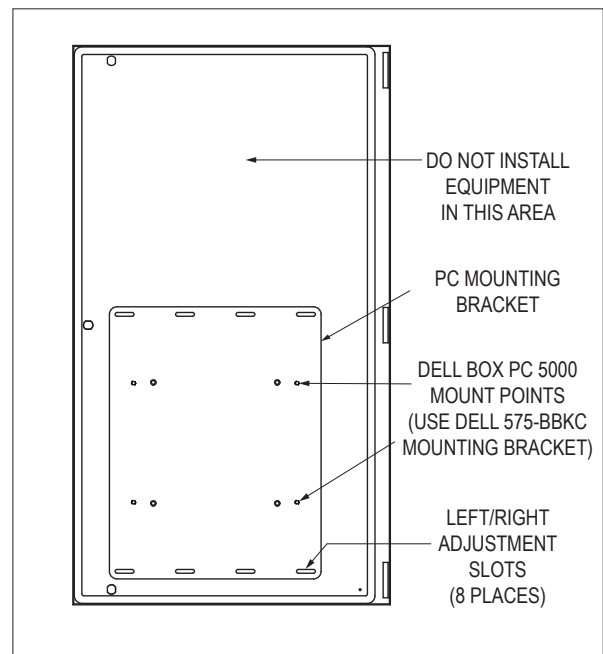

FIGURE 4 – INSIDE VIEW OF ENCLOSURE DOOR
- a. When using the standard PC mounting bracket: Refer to Figure 4. Remove the bracket and drill holes as required to accommodate the PC.